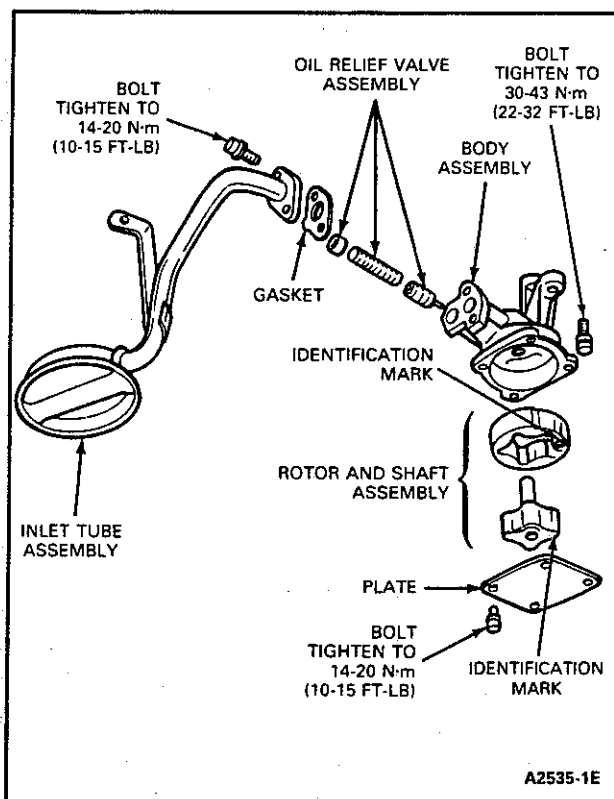

Figure 63 Oil Pump and Inlet Tube Installed
3. Remove the oil pump attaching bolts (Figure 63), and remove the oil pump gasket and intermediate drive shaft.